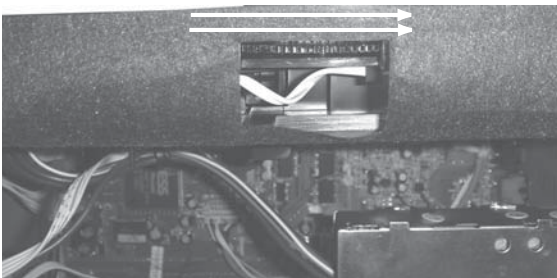

Figure 3
- 2) Push the gear slowly towards the front as shown in figure 3 until the CDC tray starts to move out of the Front Cabinet. The CDC tray is now disengaged and can be pulled out completely.